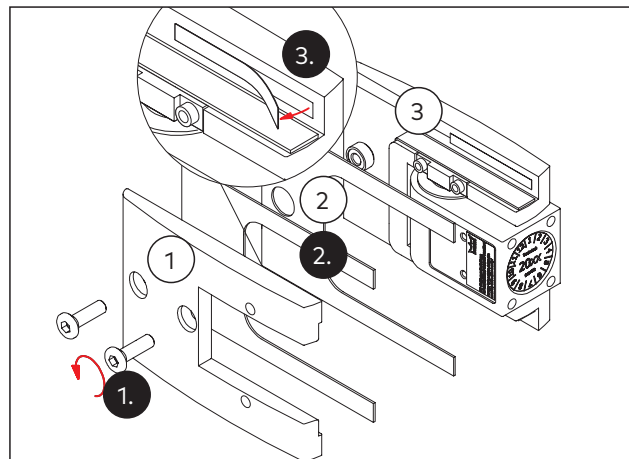

Fig. 22 Preparing the double-action hinge
1. Unscrew the counter-plate (Fig. 22/1).
2. Select the appropriate gaskets (Fig. 22/2) according to the glass thickness (see Chapter 4.2).
3. Peel off the protective film of the adhesive tape on the base- and counter-plate (Fig. 22/1 and Fig. 22/3).